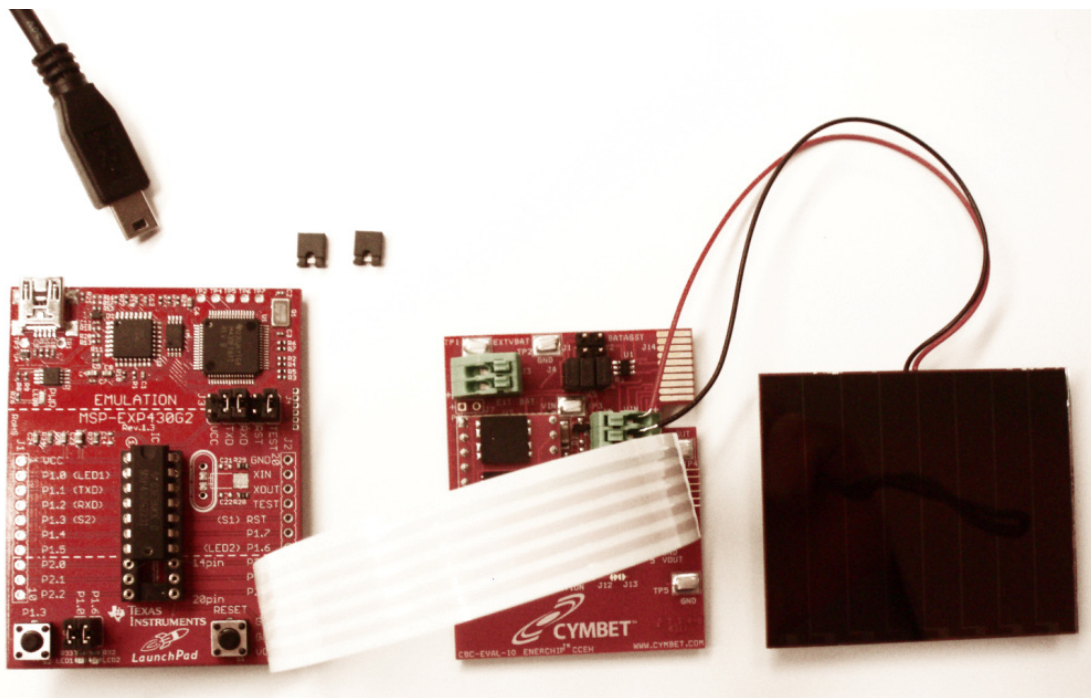

Figure 1: Cymbet CBC-EVAL-10 Energy Harvesting Evaluation Kit (right) Powering the TI LaunchPad (left).
This application note describes how three of the Cymbet Energy harvesting EVAL kits can provide uninterrupted power to the Texas Instruments MSP430-based LaunchPad development kit. Figure 1 illustrates the Cymbet EVAL-10 EnerChip CC Solar Energy Harvesting Kit connected to the TI LaunchPad. The EVAL-10 evaluation kit from Cymbet captures ambient light (indoor or outdoor) from the solar cell, converts the power efficiently using the Enerchip power management circuit, and provides continuous regulated power to the LaunchPad.
- CBC-EVAL-10: EnerChip™ CC Energy Harvester Evaluation Kit (Figure 1)